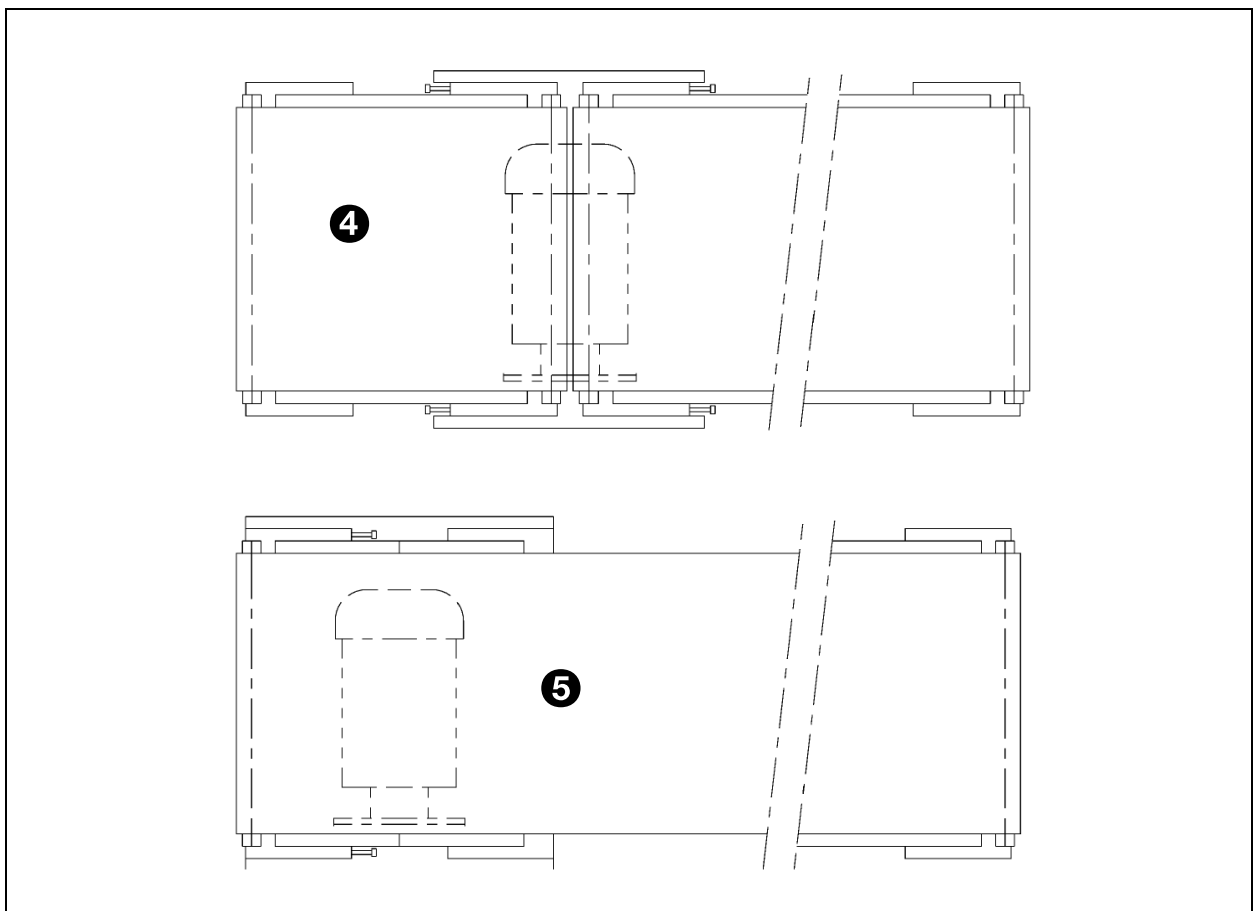

Fig. 211 - Aligning the belts
The confiflow take-away system consists of a number of take-away belts. Each take-away unit is equipped with a drive unit. This unit contains the motor that drives the belt(s). The drive unit is either installed between 2 belts, see (4) fig. 211 or at the head of the belt, see (5) fig. 211 In both instances tension and align the belts in this drive.